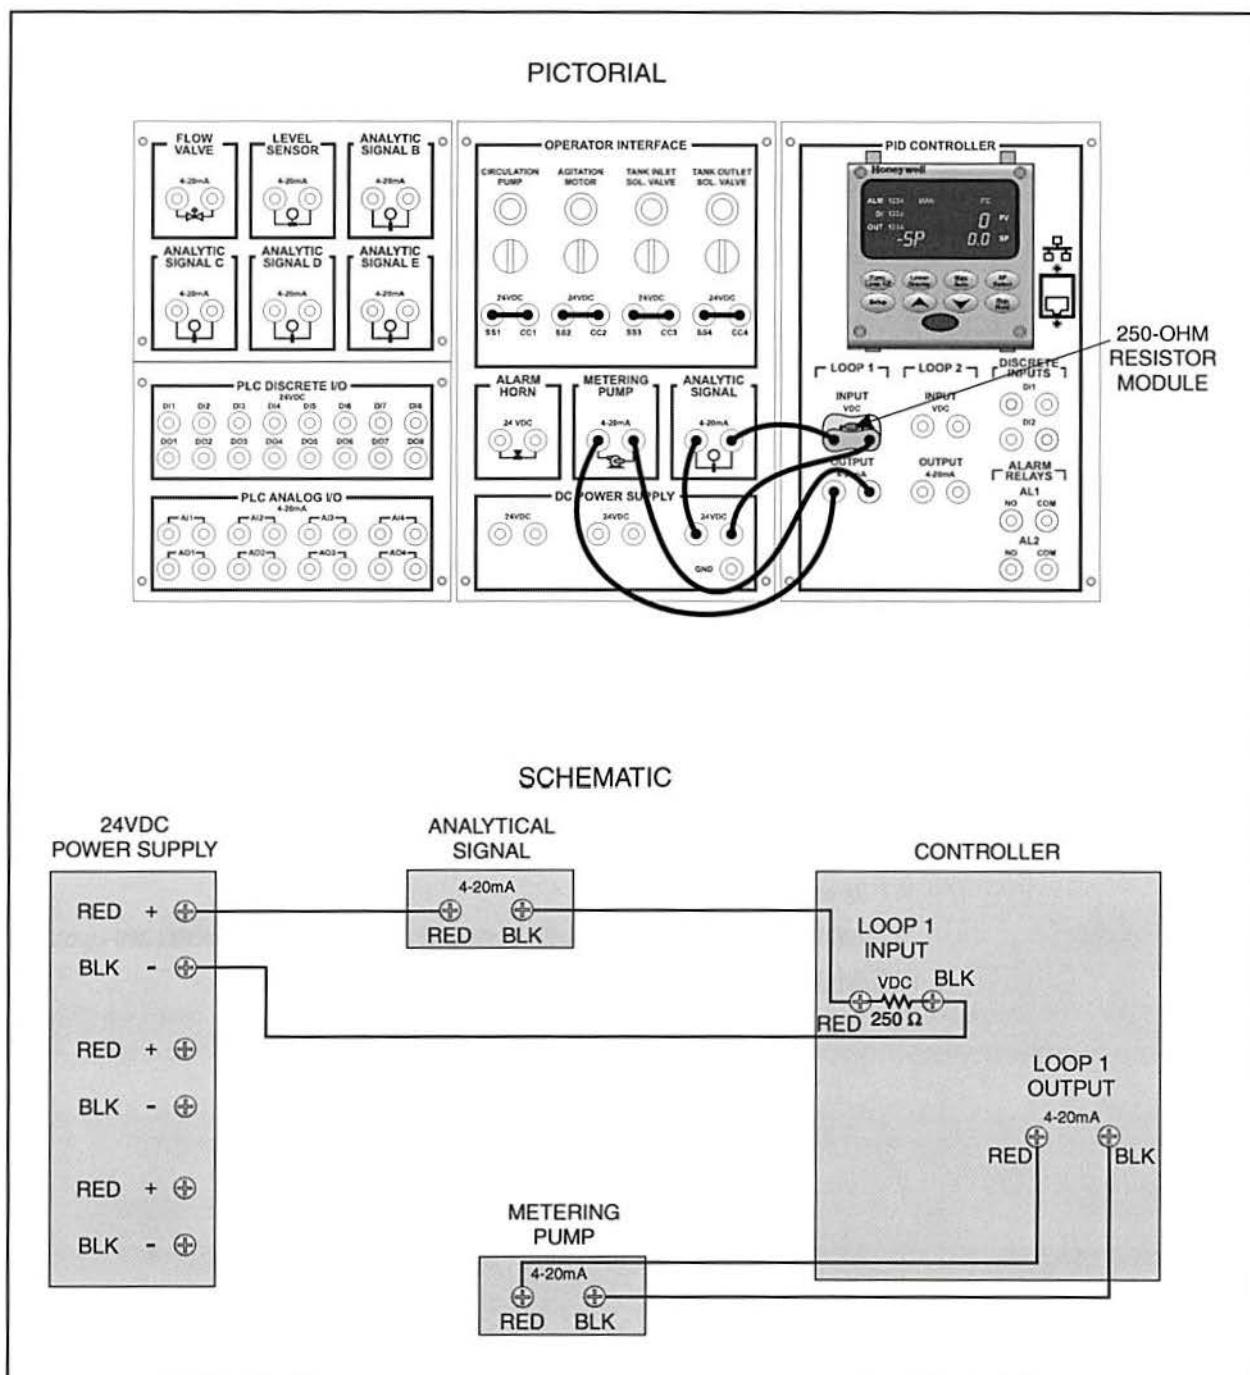

Figure 53. Continuous pH Control Circuit
- 2. Make sure the circuit shown in figure 53 is still connected. If not, connect it now.